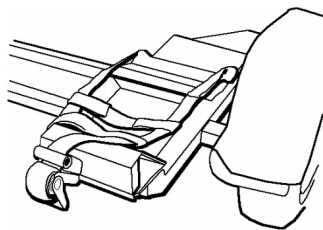

Figure 12
- ❑ Place the end of the tire strap through the spool, then tighten the tire strap as far as the ratchet allows. (Figure 12)